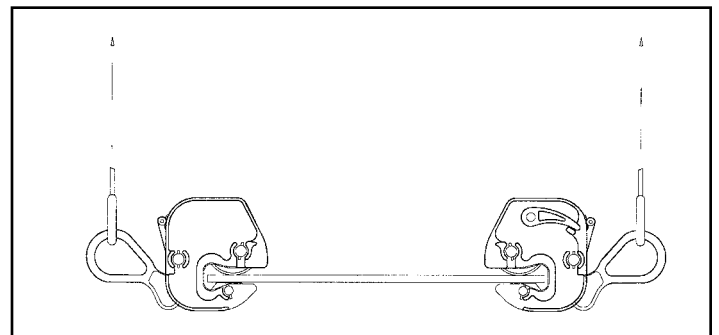

Figure 3
**HORIZONTAL LIFT:** Multiple clamps are attached to the sides of a horizontal plate. The clamps are attached to a multi-leg sling or spreader bar centered over the plate (Fig. 3).